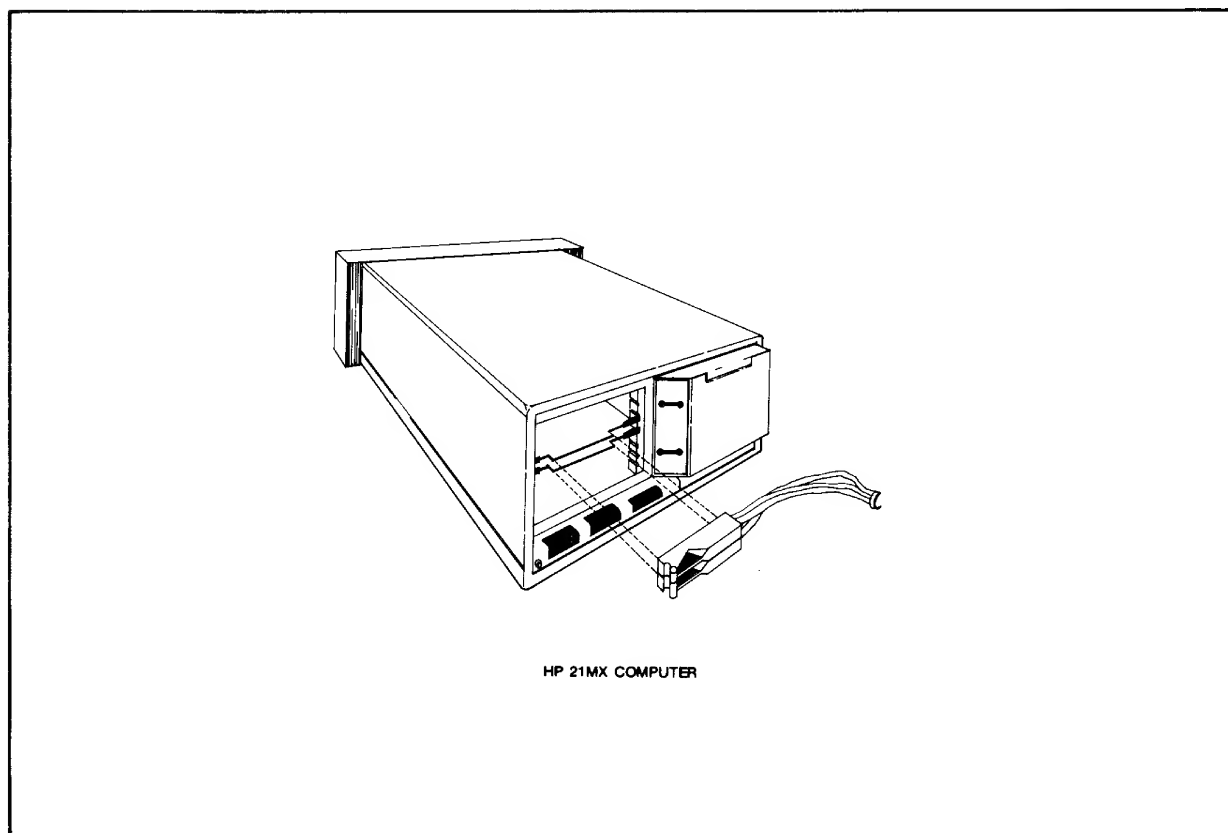

Figure 2-1. Typical Interconnect Cable Installation at the Computer
Install the Mag Tape 1 and Mag Tape 2 printed-circuit assemblies as follows (see figure 2-1):
- a. Connect MAG TAPE 1 and MAG TAPE 2 hooded connectors P1 and P2 to the Mag Tape 1 and Mag Tape 2 assemblies, respectively, as illustrated in figure 2-1.